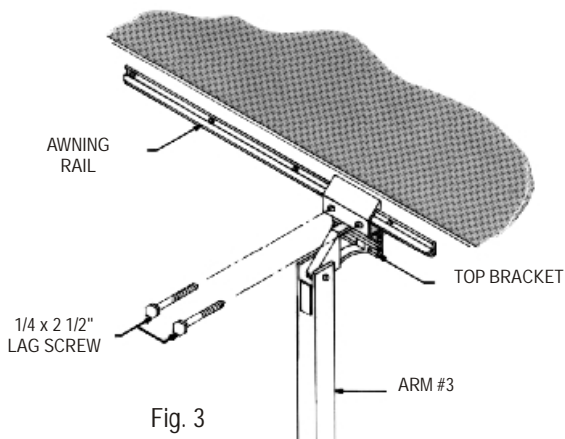

Fig. 3
A. Mount top bracket of right arm over the awning rail with a 1/4 x 2 1/2" lag screw. The bracket must not angle inwards or a poor lock will result. Holes are slotted to allow you to make minor adjustment. See fig. 3.